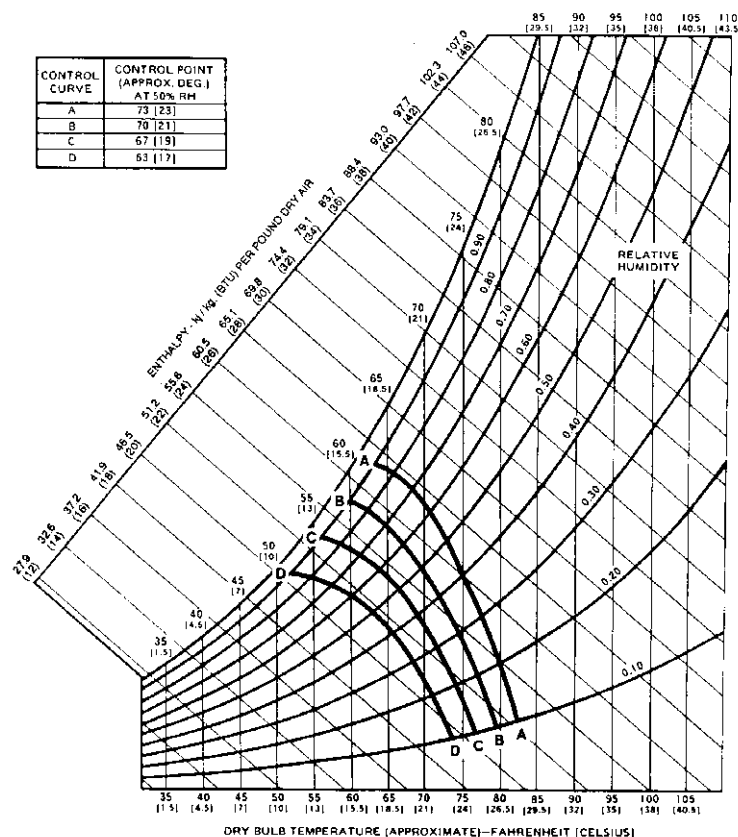

FIG. 6 - ENTHALPY SETPOINT ADJUSTMENT
1. The enthalpy set point for the dampers may now be set by selecting the desired setpoint shown in Figure 6. Adjust as follows: